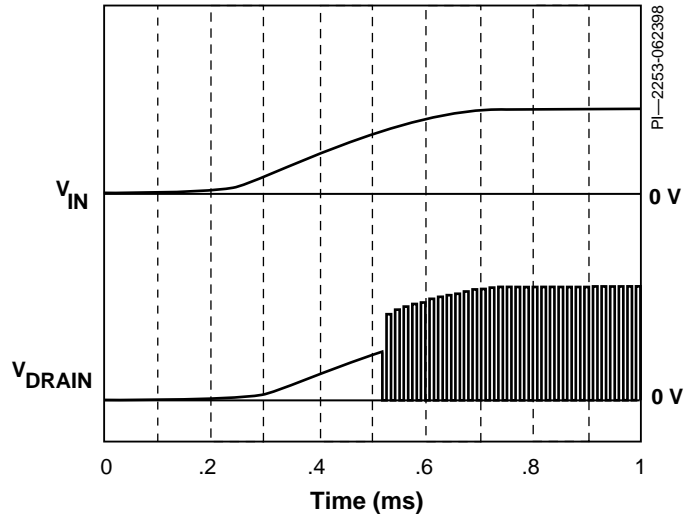
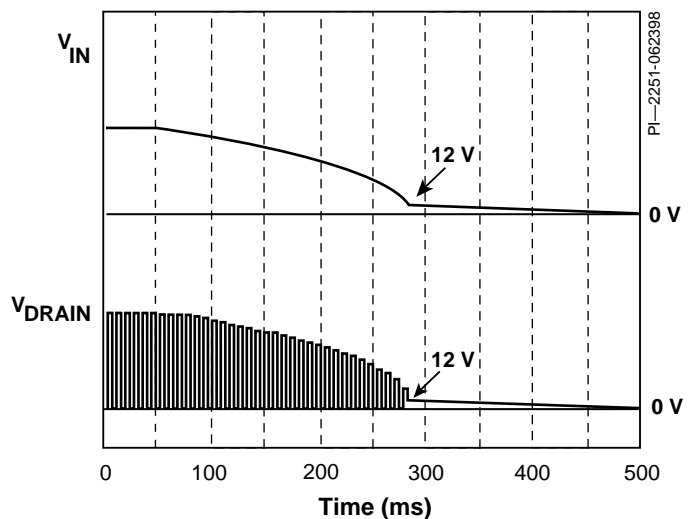

Figure 7. *TinySwitch* Power-Up Timing Diagram.
Figure 8. *TinySwitch* Power Down Timing Diagram.
*TinySwitch* requires only a 0.1  $\mu$ F capacitor on the BYPASS pin. Because of the small size of this capacitor, the power-up delay is kept to an absolute minimum, typically 0.3 ms (Figure 7). Due to the fast nature of the ON/OFF feedback, there is no overshoot at the power supply output. During power-down, the power MOSFET will switch until the rectified line voltage drops to approximately 12 V. The power MOSFET will then remain off without any glitches (Figure 8).